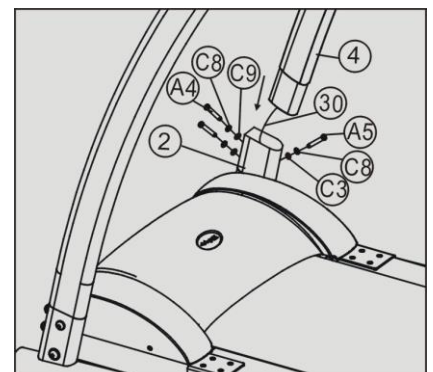

Figure 2
Pull the Wire (power / control wire) (30) to Right support tube (4), insert the right support tube to the Support frame (2), secure them with two Hex screw M8\*16 (A4), Spring washer Φ8 (C8) and Curved washerΦ8 (C9) in front, and Hex screw M8\*40 (A5), Spring washer Φ8 (C8) and Flat washer Φ8 (C3) from the side. Do not tighten them. (See fig 2)